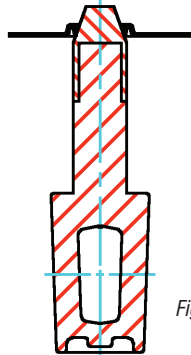

Figure 4
6. Assemble the PFA diaphragm (Part 5) over the plug stem (Part 4) with the aid of a diaphragm guide, Part series BY77543A (Figure 4). The plug stem and diaphragm guide should be checked for nicks before installing the diaphragm. Nicks on these surfaces could result in scratches on the lip of the diaphragm and must be removed by polishing.